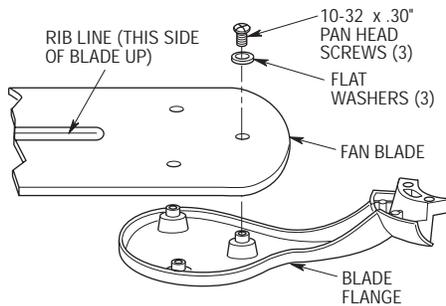

Figure 1
IMPORTANT: The side of the fan blade having the rib line **MUST** be facing upward as shown in Figure 1.
- 1. Mount the fan blades to the blade flanges using three 10-32 x .30" pan head screws and three flat washers (screws and washers supplied) (Figure 1).